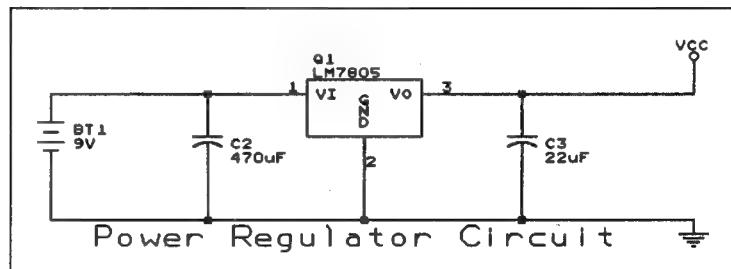

Figure 4-1. Power regulator circuit schematic.
Figure 4-1 shows the schematic diagram of the power regulator circuit you create in this chapter. Refer to this figure for placement and orientation information while performing the exercise.
4. By now you should be experienced at placing parts. Get the capacitor and place one on each side of the regulator, as shown in figure 4-1.
5. Now get the ground symbol (GND) and place it in the location shown in figure 4-1.
3. If you look closely at the part, you'll notice that one end of the part has a long heavy line as part of the border. The other end has a shorter heavy line as part of the border. The long heavy line indicates the positive terminal of the battery. As shown in figure 4-1, you want the positive terminal up, so rotate the symbol to this orientation (**Down**), and place it on the worksheet.
Compare your worksheet with figure 4-1. Notice that several wires are missing from your worksheet.
7. Now, connect wire segments between the remaining parts as shown in figure 4-1. Be sure to **Begin** and **End** each wire segment at the end of a part pin, not within the body of the part.
8. Using the **PLACE Junction** command, place junctions in the circuit at the five locations shown in figure 4-1.
4. Now move the image of the power symbol until it rests on the end of the wire, as shown in figure 4-1, and select **Place**.